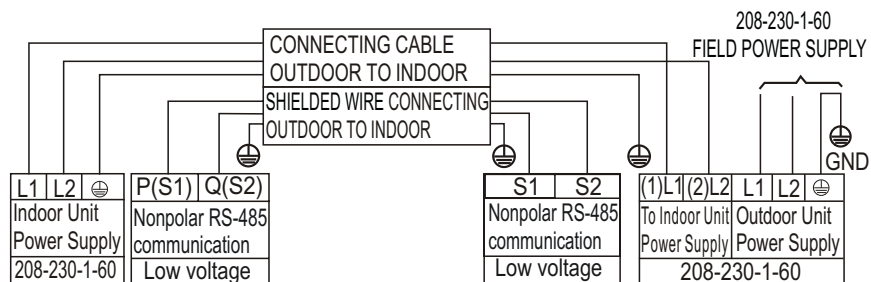

Fig. 22 — Connection Diagram Sizes 36K - 58K
- All connections between indoor and outdoor units must be as shown in Figure 22. The connections are sensitive to polarity and will result in a fault code.